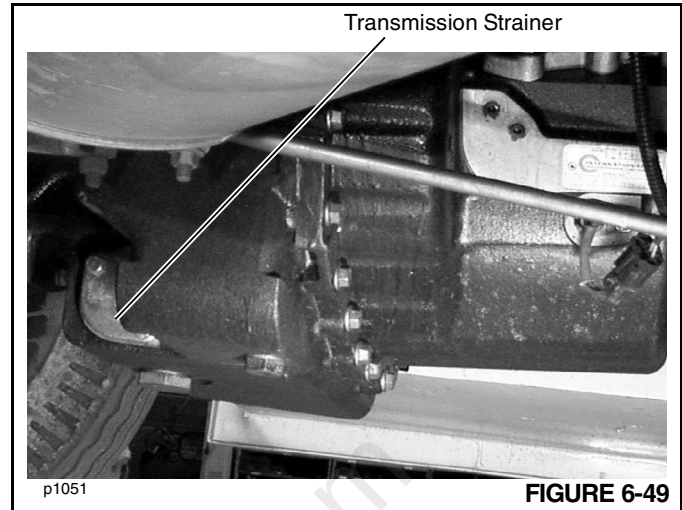

FIGURE 6-49
2. Place suitable container under the strainer (Figure 6-49). Remove the strainer and gasket and drain the oil into the container. Discard the gasket.